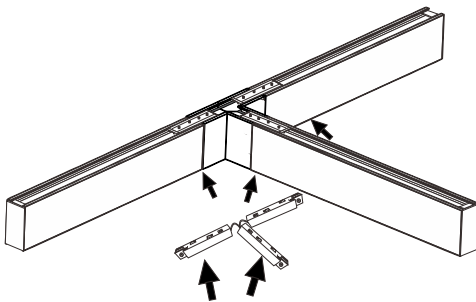

Figure6.3
3. After the three tracks are spliced together, insert the T-type conduction connector into the splicing place of the three tracks to make the internal lines of the three tracks connect to conduct; (Figure 6.3)